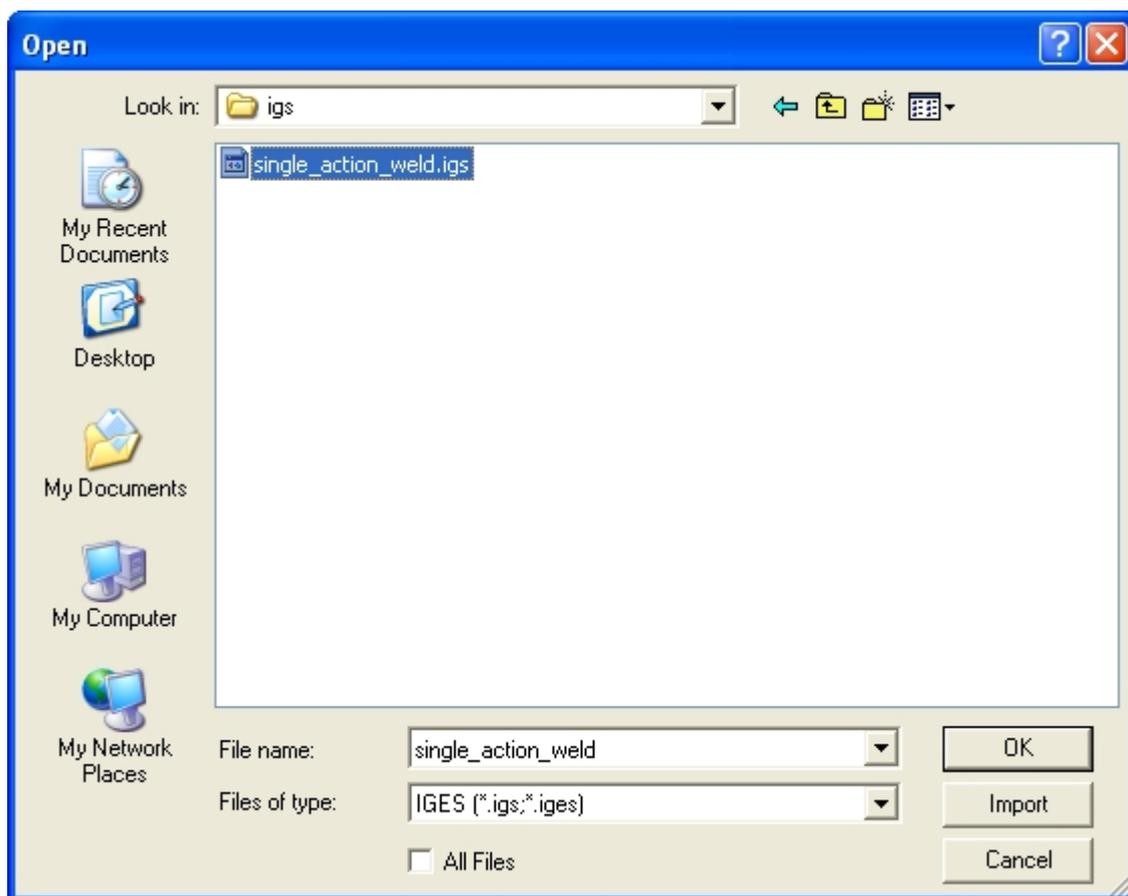

Figure 5.1 Open file dialog box
1. From the menu bar, select **File→Import** to open the IMPORT FILE dialog box illustrated in Figure 5.1, Next, Click the drop-down button of File Type and select “**IGES(*.igs;*.iges)**”. Then, go to the training input files located in the CD provided along with the eta/DYNAFORM installation. Locate the data file: **single_action_weld.igs**.